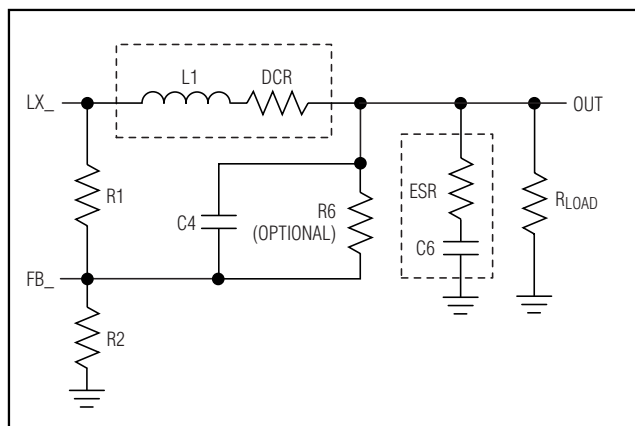

Figure 5. MAX8668 Feedback Network
The OUT1 and OUT2 output voltages of the MAX8668 are set by a resistor network connected to FB- as shown in Figure 5. With this configuration, a portion of the feedback signal is sensed on the switched side of the inductor (LX), and the output voltage droops slightly as the load current is increased due to the DC resistance of the inductor (DCR). This allows the load regulation to be set to match the voltage droop during a load transient (voltage positioning), reducing the peak-to-peak output-voltage deviation during a load transient, and reducing the output capacitance requirements.
To obtain less voltage positioning than described in the previous section, use the following procedure for setting the output voltages. The OUT1 and OUT2 output voltages and voltage positioning of the MAX8668 are set by a resistor network connected to FB- as shown in Figure 5.